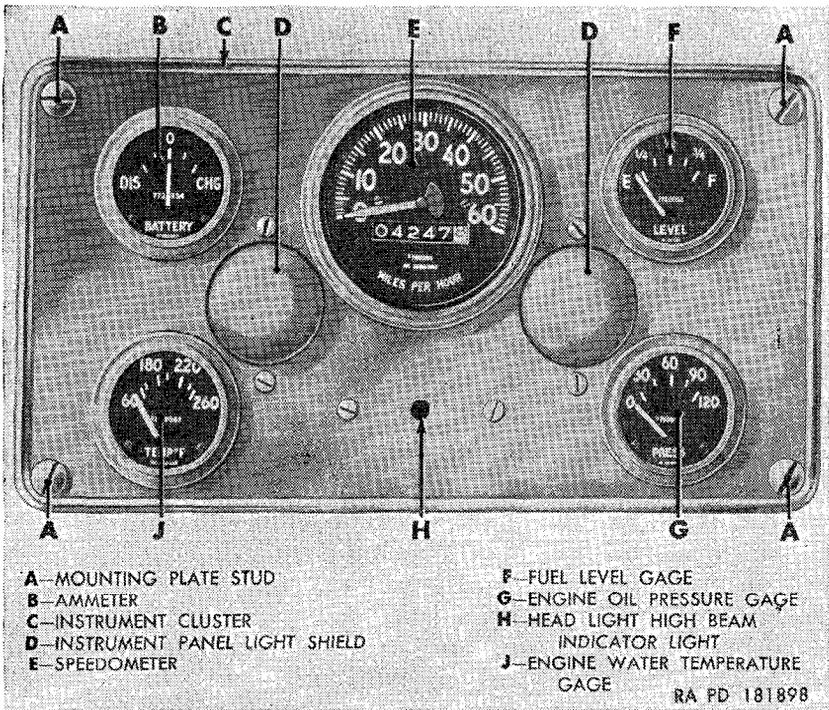
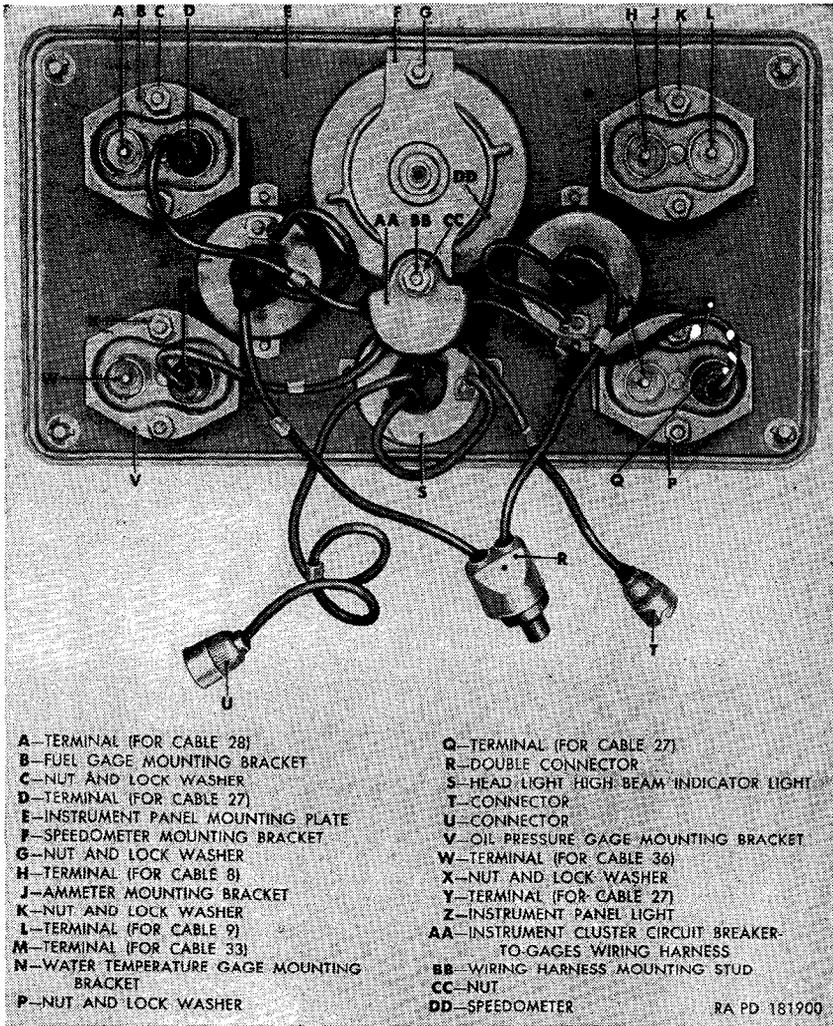

Figure 112. Instrument cluster (M38A1)—front view.
Figure 114. Instrument cluster (M38A1)—rear view.
a. Instrument Cluster (figs. 112 and 113). The speedometer, ammeter, engine oil pressure gage, water temperature gage, fuel level gage, two instrument panel lights, and headlight high beam indicator light are mounted in the instrument panel mounting plate located in the instrument panel. This assembly is referred to as the instrument cluster. The location and function of the various units in the instrument cluster are described in paragraphs 33 through 39.
Note. The key letters noted in parentheses refer to figure 114, except where otherwise indicated.
a. Removal. Disconnect the ground cable 7 (par. 162b(8) (a) and (b)). Turn each of the four instrument cluster mounting plate studs (A, fig. 112) one-half turn counterclockwise and pull instrument cluster free from instrument panel. Unscrew the nut securing the
40 at double connector R. Connect cable 17 at connector U. Connect cable 27 to connector T. Position speedometer flexible shaft assembly in rear of speedometer and tighten nut securing shaft to speedometer (DD). Install instrument cluster in instrument panel and secure in position by turning the four instrument cluster mounting plate studs (A, fig. 112) one-half turn clockwise. Connect ground cable 7 (par. 162b(9)(b) and (c)).
Disconnect ground cable 7 (par. 162b(8)(a) and (b)). Turn the four instrument cluster mounting plate studs (A, fig. 112) one-half
turn counterclockwise and pull instrument cluster free from instrument panel. Disconnect cables 8 and 9 from terminals H and L. Remove the nuts and lockwashers (K) securing the ammeter (B, fig. 112) and ammeter mounting bracket (J) in position and remove bracket and ammeter from instrument panel mounting plate (E).
Position the ammeter in the instrument panel mounting plate (E) and rotate ammeter until it engages the locating slot in the plate. Position ammeter mounting bracket (J) over the ammeter and secure ammeter and bracket in position with two No. 8 lockwashers and nuts (K). Install cable 8 on terminal H and cable 9 on terminal L. Position the instrument cluster on the instrument panel and turn the four instrument cluster mounting plate studs (A, fig. 112) one-half turn clockwise. Connect ground cable 7 (par. 162b(9)(b) and (c)).
a. Removal. The removal procedure for the fuel level gage (F, fig. 112) is the same as the removal procedure for the ammeter (par. 174a) with the exception of the mounting bracket and the cables.
Fuel gage mounting bracket (B, fig. 114) is used. Disconnect cables 27 and 28 from terminals (D and A, fig. 114).
b. Installation. The installation procedure for the fuel level gage (F, fig. 112) is the same as installation procedure for the ammeter (par. 174*b*) with the exception of mounting bracket and cables. The fuel gage mounting bracket (B, fig. 114) is used. Install cable 28 on terminal (A, fig. 114) and cable 27 on terminal (D, fig. 114).
a. Removal. The removal procedure for the engine water temperature gage (J, fig. 112) is the same as the removal procedure for the ammeter (par. 174*a*) with the exception of the mounting bracket and the cables. Water temperature gage mounting bracket (N, fig. 114) is used. Disconnect cable 27 from terminal (Q, fig. 114) and cable 33 from terminal (M, fig. 114).
b. Installation. The installation procedure for the engine water temperature gage is the same as the installation procedure for the ammeter (par. 174*b*) with the exception of the mounting bracket and the cables. Water temperature gage mounting bracket (N, fig. 114) is used. Connect cable 33 to terminal (M, fig. 114) and cable 27 to terminal (Q, fig. 114).
a. Removal. The removal procedure for the engine oil pressure gage (G, fig. 112) is the same as removal procedure for the ammeter (par. 174*a*) except for the mounting bracket and cables. Oil pressure gage mounting bracket (V, fig. 114) is used. Disconnect cable 27 from terminal (Y, fig. 114) and cable 36 from terminal (W, fig. 114).
b. Installation. Installation of the engine oil pressure gage (G, fig. 112) is the same as installation of the ammeter (par. 174*b*) with the exception of the mounting bracket and cables. Oil pressure gage mounting bracket (V, fig. 114) is used. Install cable 36 on terminal (W, fig. 114) and cable 27 on terminal (Y, fig. 114).
- (1) Turn the four instrument cluster mounting plate studs (A, fig. 112) one-half turn counterclockwise and pull the instrument cluster free from instrument panel.
- (2) Unscrew the nut securing the speedometer flexible shaft assembly to the speedometer (DD), and pull shaft out of speedometer.
- (3) Remove the nut (CC), lockwasher, and plain washer securing the instrument cluster circuit breaker-to-gages wiring harness
- (1) Position the speedometer (DD) in the instrument panel mounting plate (E) and locate speedometer mounting bracket (F) over speedometer mounting studs.
- (2) Install a No. 8 lockwasher on speedometer lower mounting stud, and screw the wiring harness mounting stud (BB) on the speedometer mounting stud.
- (3) Install the 0.322-inch ID plain washer, instrument cluster circuit breaker-to-gages wiring harness (AA), 0.203-inch ID plain washer, and No. 8 nut (CC) on the wiring harness mounting stud. Install a No. 8 lockwasher and nut (G) on the remaining speedometer mounting stud.
- (4) Install the speedometer flexible shaft assembly in the speedometer (DD) and tighten nut securely.
- (5) Position instrument cluster on instrument panel and turn the four instrument cluster mounting plate studs (A, fig. 112) one-half turn clockwise.
a. Removal (M38A1). Turn the four instrument cluster mounting plate studs (A, fig. 112) one-half turn counterclockwise and pull instrument cluster free from instrument panel. The two instrument panel lights with cables are permanently connected together in double connector (R) and must be replaced as one unit. Disconnect cable 40
at double connector (R). Remove the four screws and lockwashers securing the instrument panel lights (Z) to the instrument panel mounting plate (E) and remove lights and instrument panel light shields (D, fig. 112).
b. Installation (M38A1). Position the instrument panel light shields (D, fig. 112) in the instrument panel mounting plate (E). Position the two instrument panel lights on the plate and secure each one with two No. 8 x $\frac{5}{16}$ screws and No. 8 lockwashers. Connect cable 40 to double connector R. Position instrument cluster on instrument panel and turn the four instrument cluster mounting plate studs (A, fig. 112) one-half turn clockwise.
e. Lamp Replacement (M38A1). Turn the four instrument cluster mounting plate studs (A, fig. 112) one-half turn counterclockwise and pull instrument cluster free from instrument panel. Press in on the cover of the instrument panel light (Z), turn counterclockwise and pull cover off light body. Press in and turn lamp counterclockwise, to disengage it from lamp socket and remove lamp. Install new lamp by pressing lamp into socket and turning clockwise. Install instrument panel light cover by pressing in and turning clockwise in lamp body. Position instrument cluster on instrument panel and turn the four instrument cluster mounting plate studs (A, fig. 112) one-half turn clockwise.
a. Removal (M38A1). Turn the four instrument cluster mounting plate studs (A, fig. 112) one-half turn counterclockwise and pull instrument cluster free from instrument panel. Disconnect cable 17 at connector (U, fig. 114). Remove the two screws and lockwashers securing the headlight high beam indicator light in position and remove indicator light.
b. Installation (M38A1). Position the headlight high beam indicator light (S, fig. 114) on the instrument panel mounting plate (E, fig. 114) and secure in position with two No. 8 x 1/2 screws and No. 8 lockwashers. Connect cable 17 to connector (U, fig. 114). Position instrument cluster on instrument panel and turn the four instrument cluster mounting plate studs (A, fig. 112) one-half turn clockwise.
e. Lamp Replacement (M38A1). Turn the four instrument cluster mounting plate studs (A, fig. 112) one-half turn counterclockwise and pull instrument cluster free from instrument panel. Turn the cover of the headlight high beam indicator light (S, fig. 114) counterclockwise and pull cover out of light body. Press in and turn lamp counterclockwise to disengage it from lamp socket. Install new lamp by pressing it into lamp socket and rotating clockwise. Position indicator light cover on light body, press in and turn cover clockwise to engage with light body. Position instrument cluster on instrument panel and turn the four instrument cluster mounting plate studs (A, fig. 112) one-half turn clockwise.